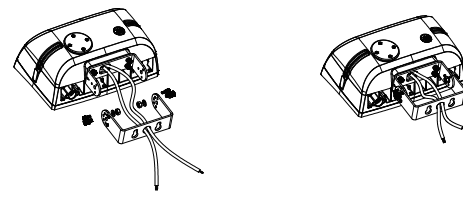

figure 5.2
Step 2: Tighten the brackets and screws. (figure 5.2)